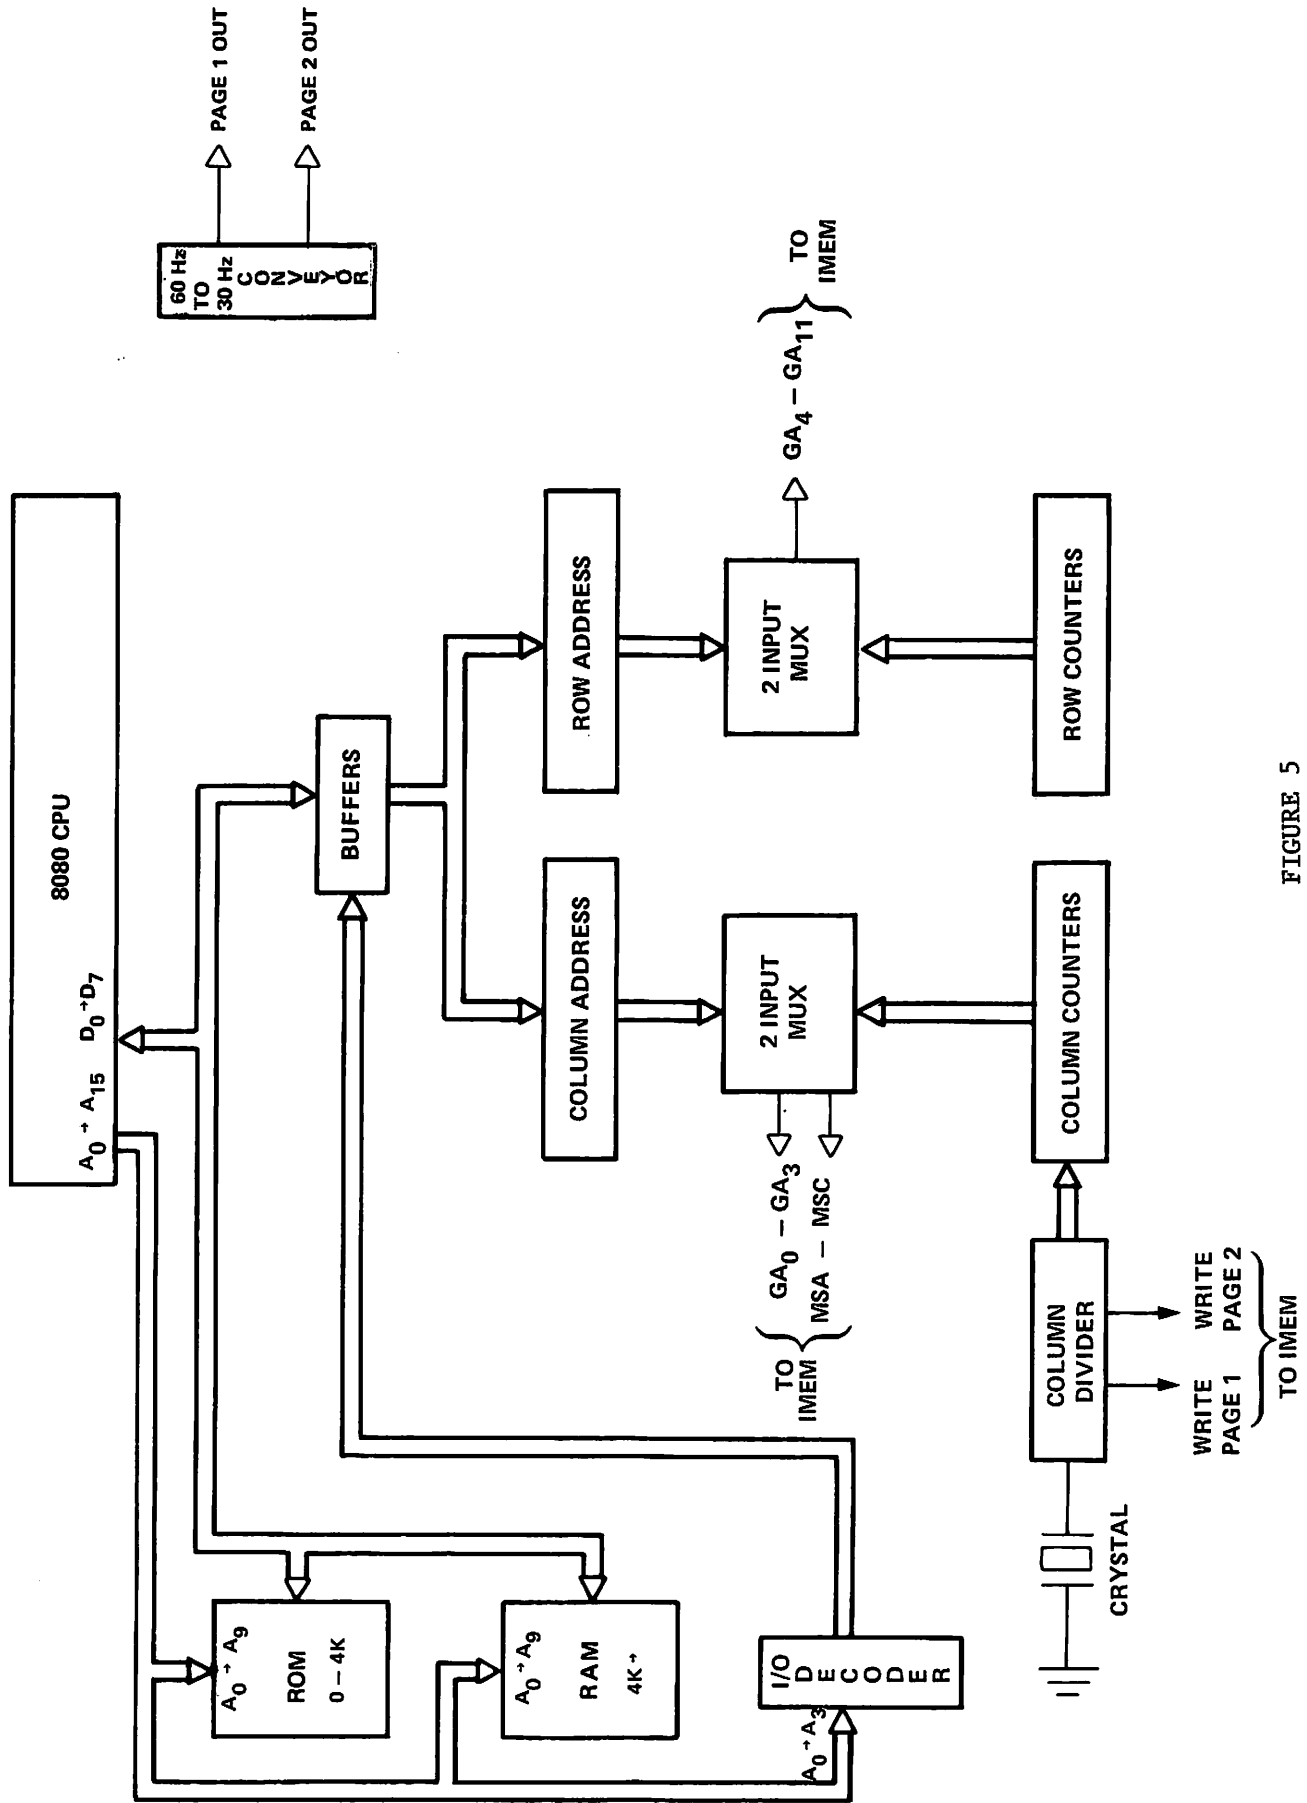

FIGURE 5
4.2.6 CONTROLLER (PCB #7296 - Figure 5)